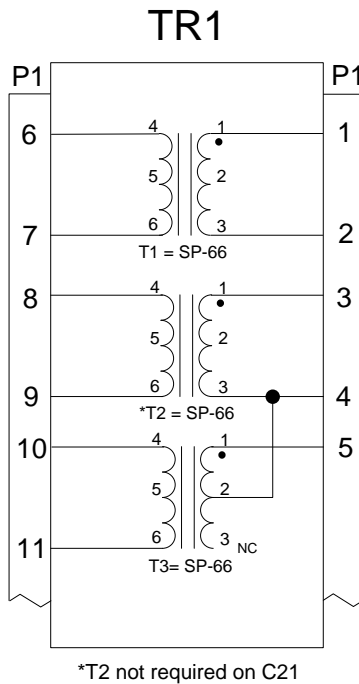

Figure E7: TR1 – Century 21/31/41/2000/4000
- b) The junction box that houses the transformers must be aluminum. Use of a D-sub connector (DB-15) is suggested with the wires connected per Figure E7 or E7A below.
- i. TR1 – Century 21/31/41/2000/4000, the three (3) transformers are Triad SP-66 (MIL# TF5S2 1ZZ). Note – The roll only Century 21 autopilot only uses two transformers (T1 and T3).
- Century autopilots only, build transformer box TR1 or TR2 as shown in Figure E7 or E7A and per instructions in Section E5.5.